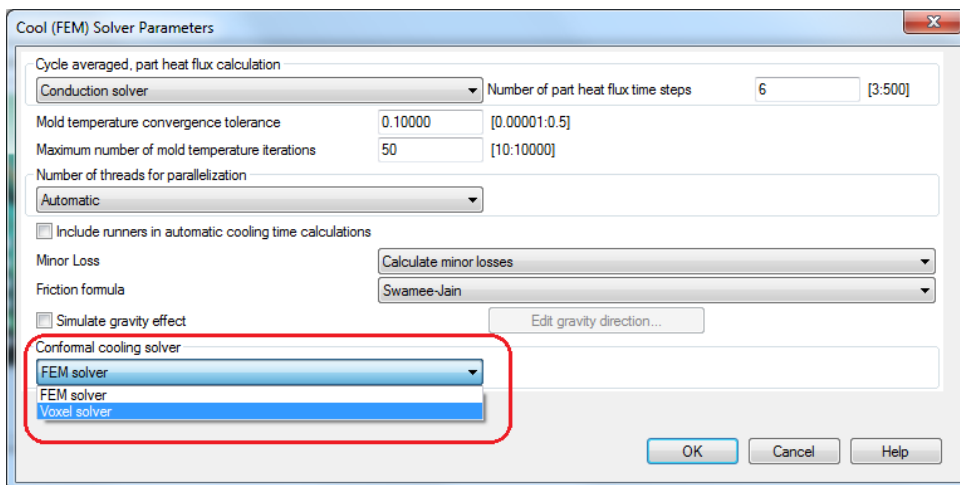

Figure 1 Conformal cooling solver selection
- 5) Select conformal cooling solver. There is one extra option being added which allows user to select the existing conformal cooling solver and the new solver. The option can be found in the “Cool(FEM) Solver Parameters” dialog which is shown in figure 1.